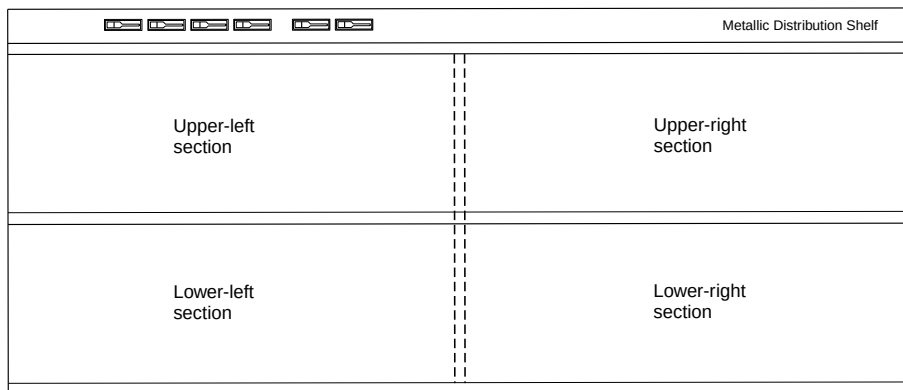

Figure 1 – MDS Sections Powered by PTU Fuses
9. Remove all circuit packs from the section powered by the blown fuse (Figure 1).